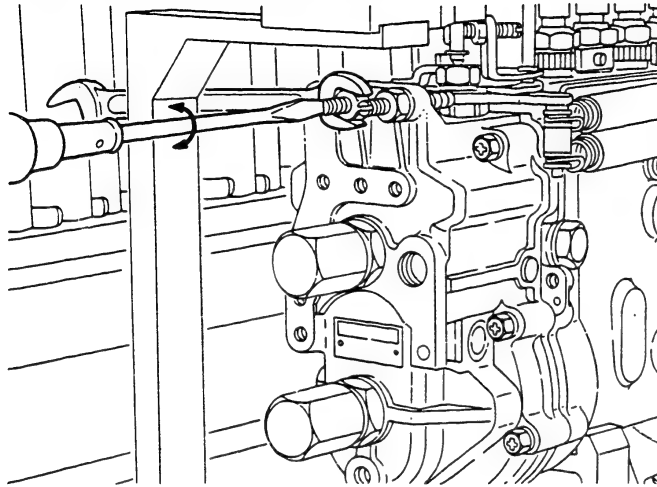

Fig. 147 Adjustment of the idling setting bolt
- 1) Decrease the pump speed to Nb' rpm and adjust the idling setting bolt (174) so that the control rack will be at position Rc mm. Then lock the nut (178). (Figs. 147 and 148)